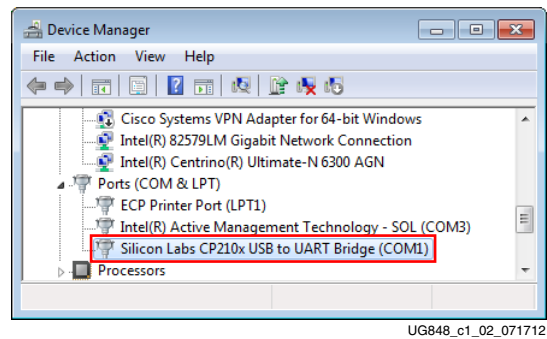

Figure 1-2: Device Manager
3. Open the host computer Device Manager (Figure 1-2). In the Windows task bar, Click **Start**, click **Control Panel**, and then click **Device Manager**.